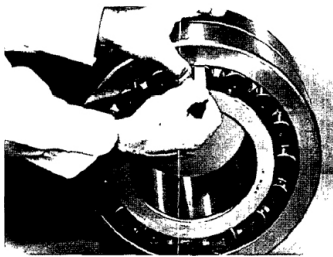

Figure 1 - Internal Clearance
2. Measure the internal clearance of the bearing before mounting. Place the bearing in a upright position as shown in Figure 1.